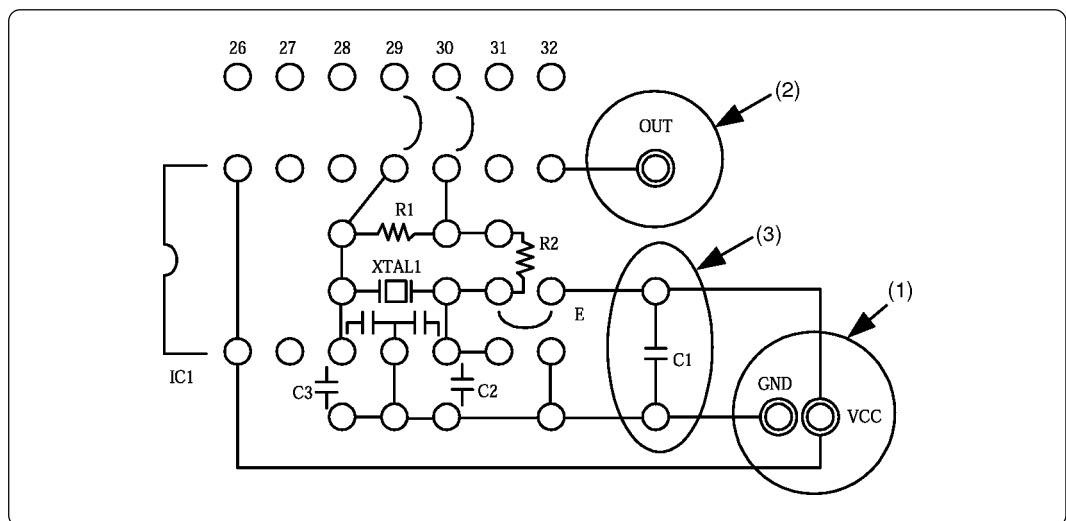

Figure 2 Connections when using the C1
When using the IC1, the following processing is necessary (see (1) to (3) in Figure 2).
- (1) Supply VCC and GND.
- (2) Connect the OUT pin to the XIN pin of the S1.
- (3) Install a bypass capacitor at the C1.